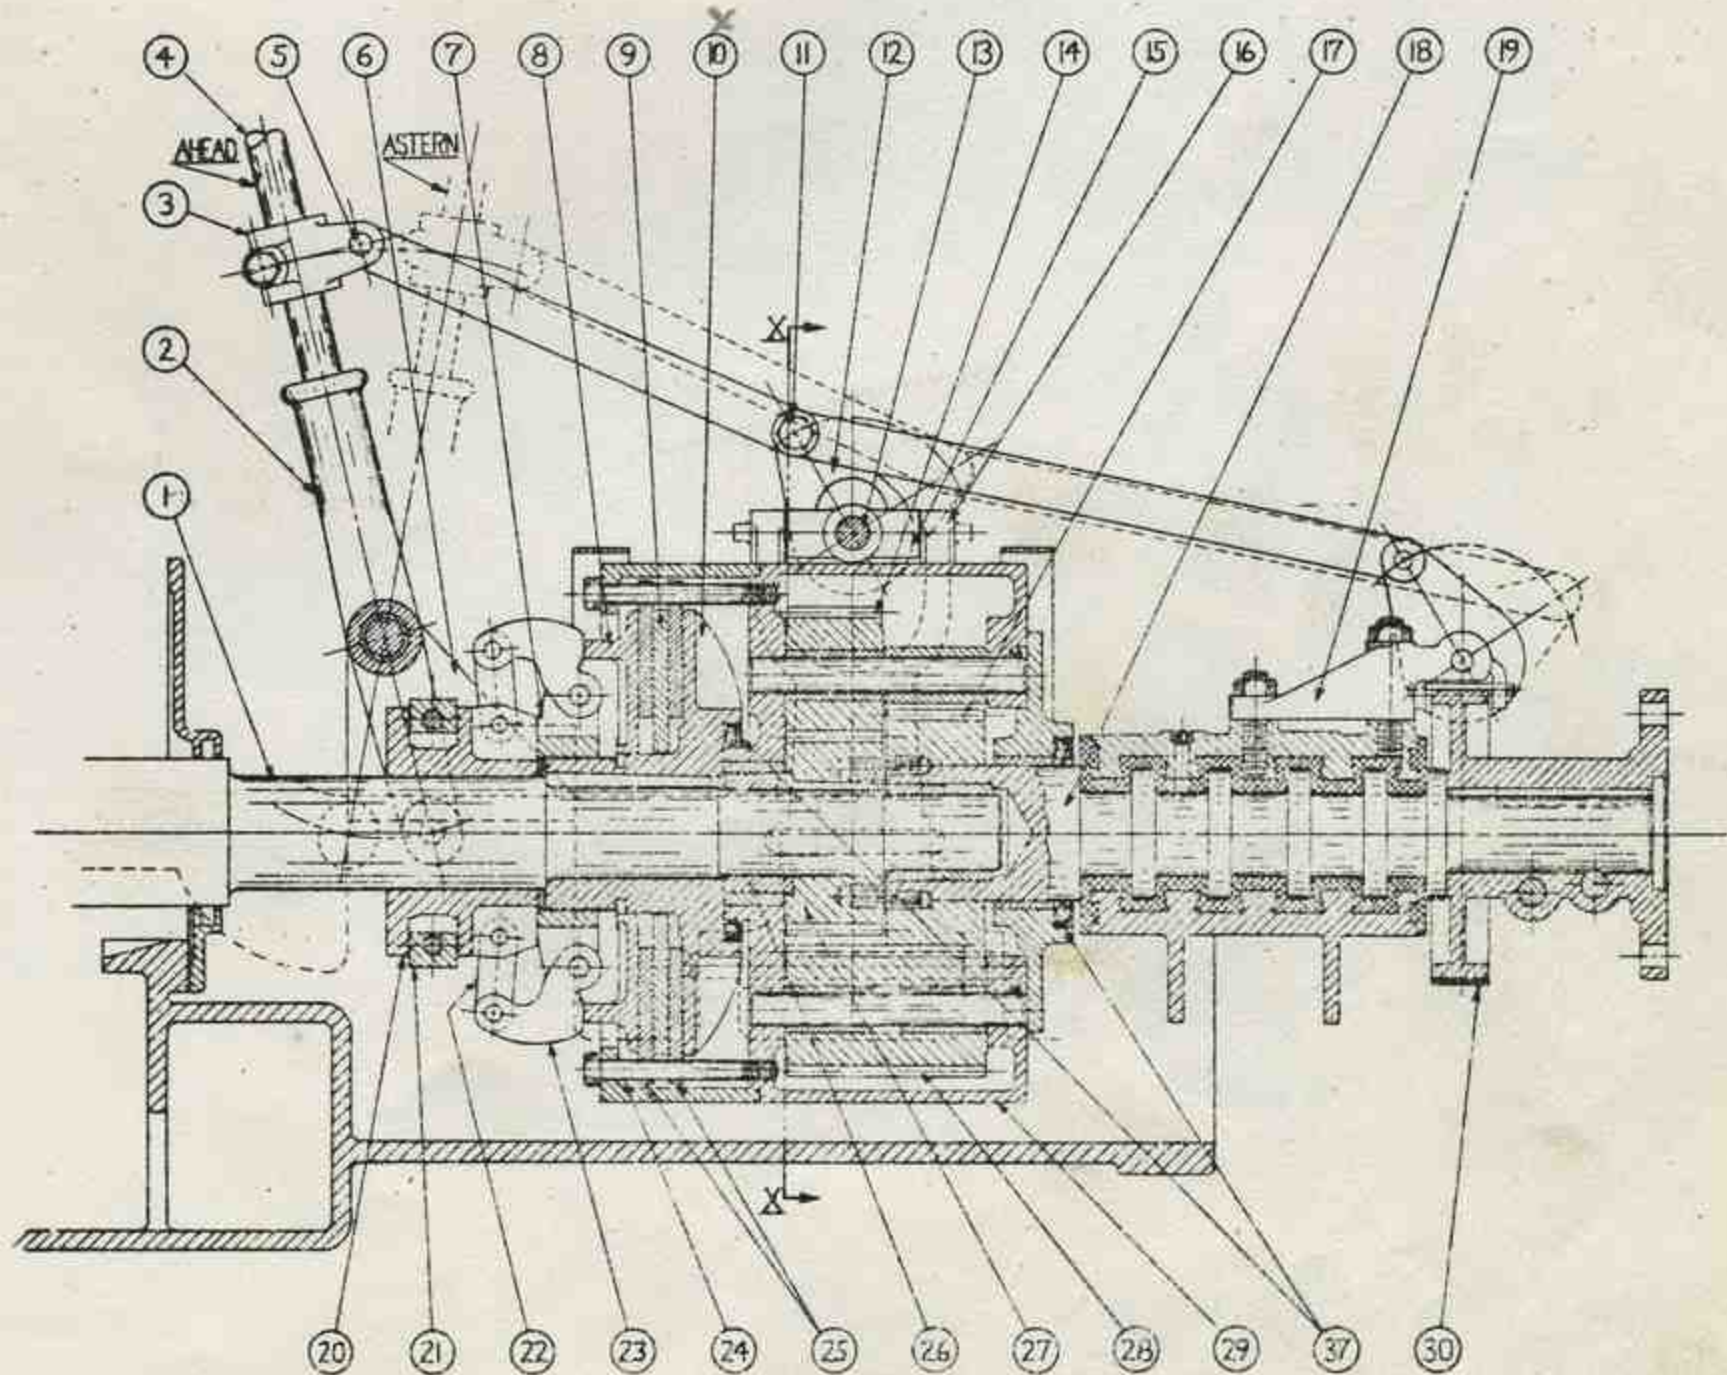
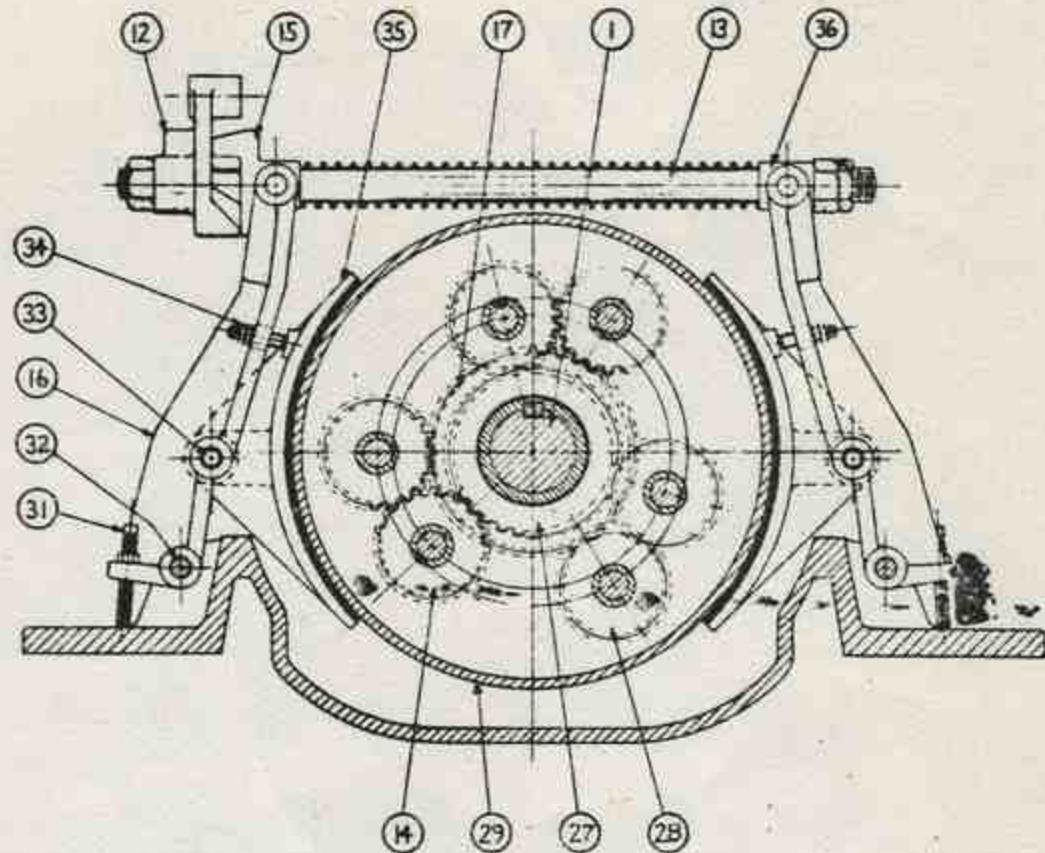
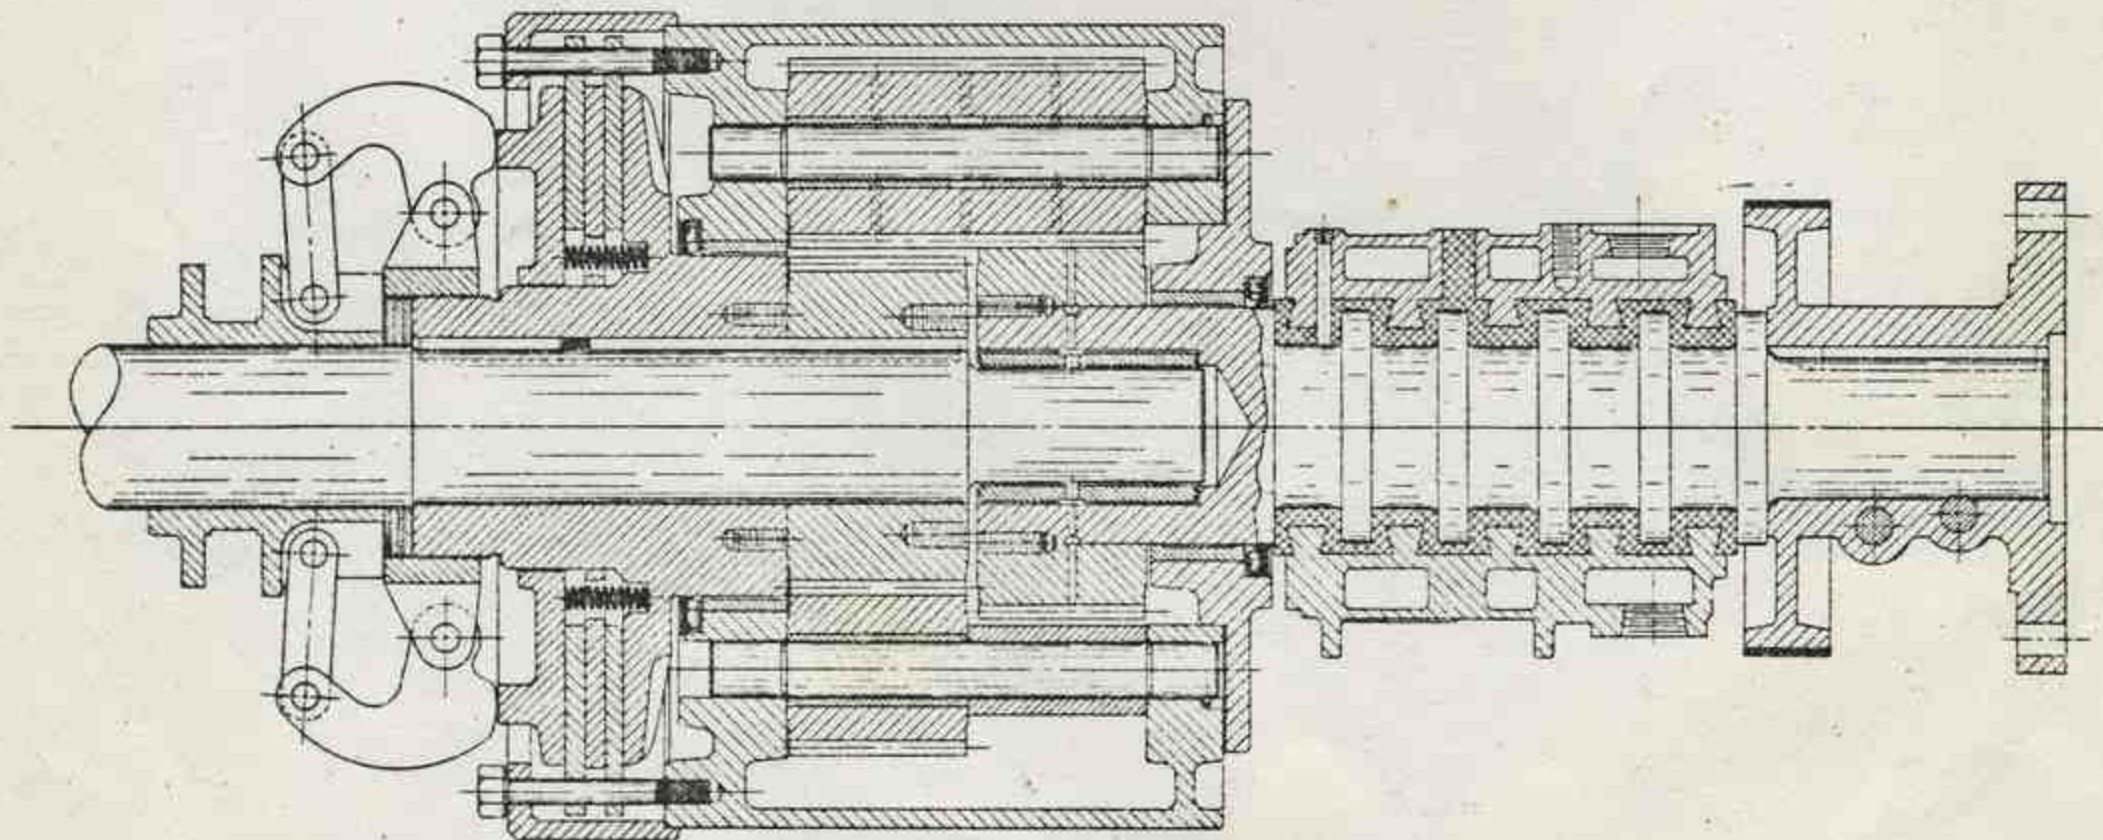
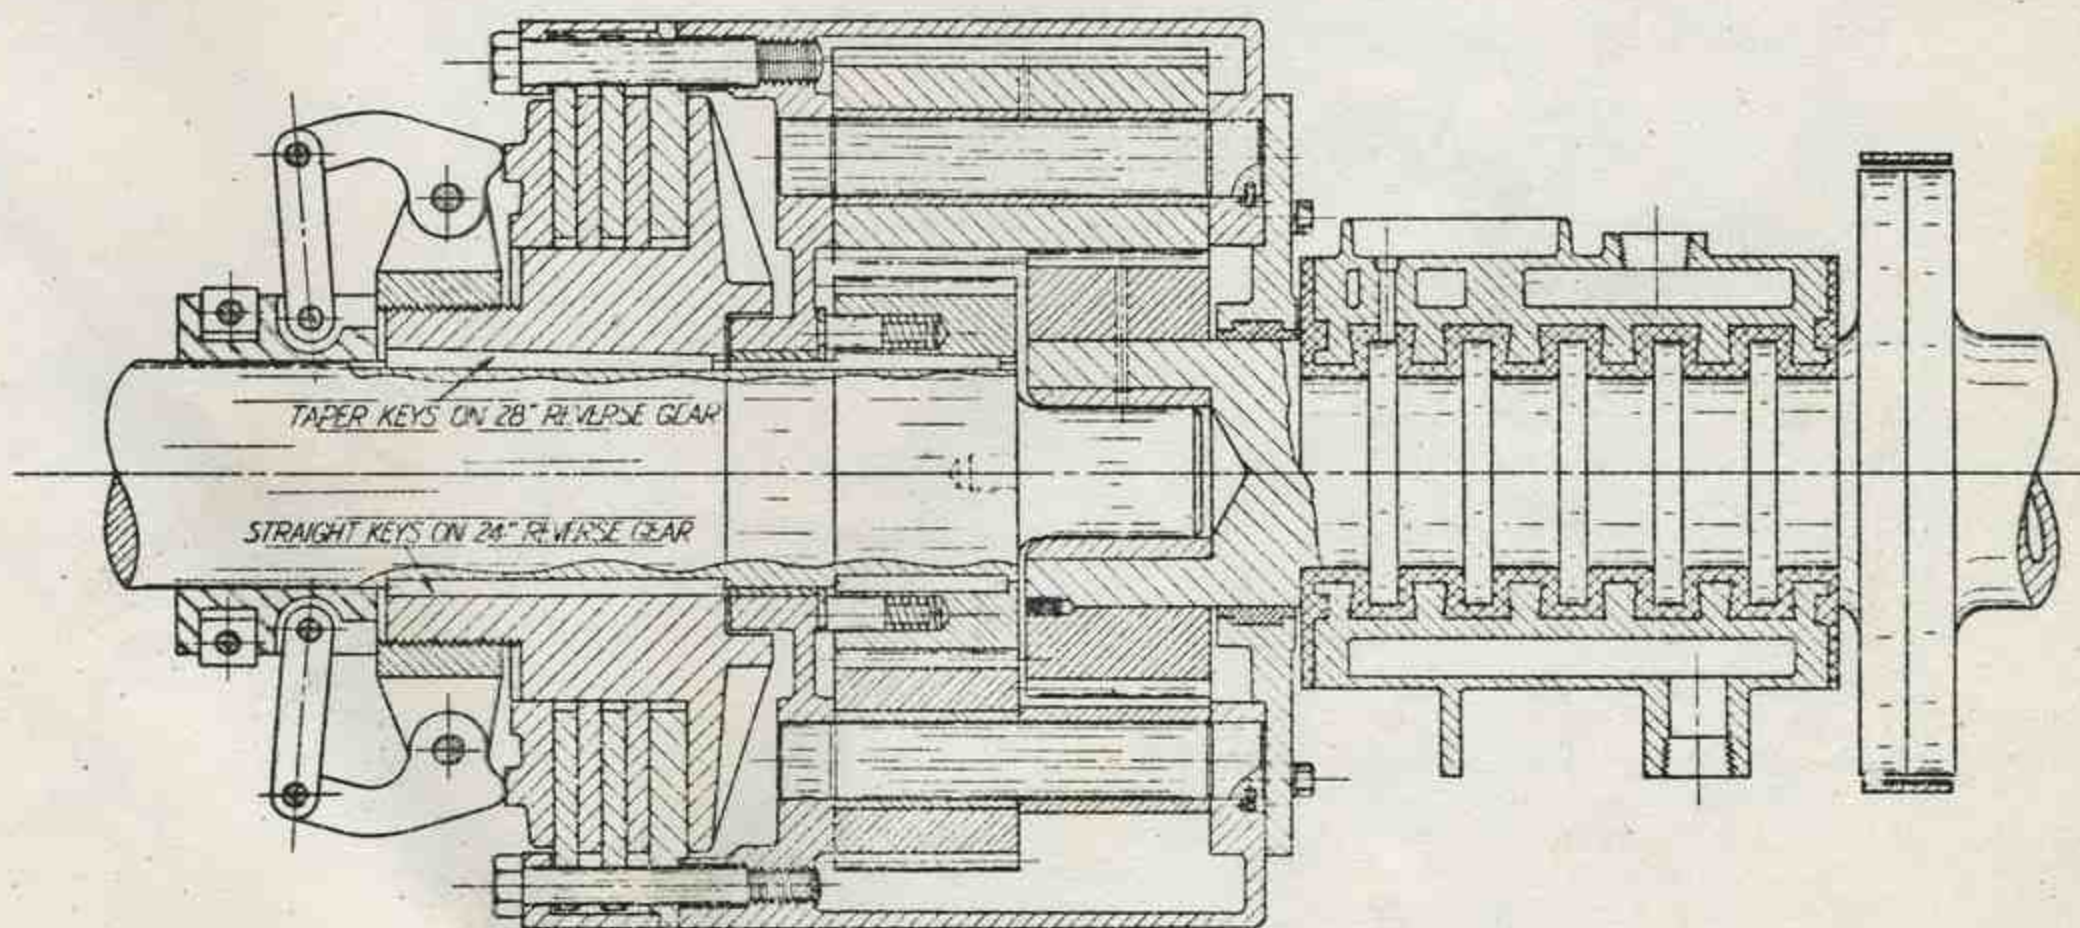

FIG. S-1
FIG. S-2
FIG. S-3
FIG. S-4
The gear is made up of a planetary transmission, a disc clutch, and two brakes, operating on the drum of the transmission and on the propeller shaft. The resulting drive permits complete control of the propeller shaft by means of the clutch control mechanism. Its operation is described under Paragraph 6. The reverse gear is closely associated with the thrust bearing, and both units are shown in the illustrations and included in the following description. The different size gears are quite similar in design and the description applies to all of them with the exception of certain differences that are mentioned in the text. Fig. S-1 and Fig. S-2 show longitudinal and transverse sections through the 14" gear, Fig. S-3 illustrates the design of the 19" and 21" gears and Fig. S-4 the 24" and 28" gears. The
Referring to Fig. S-1, the planetary transmission is housed in a rotating drum (29). It consists of two shaft gears (17) and (27), mounted side by side on adjacent ends of crankshaft (1) and thrust shaft (18), and interconnected by three pairs of "planet" gears, (14) and (28). These planet gears rotate on bronze bushings on pins mounted in drum (29). The long planet gears (28) extend across the faces of both of the shaft gears, meshing with the larger thrust shaft gear (17) and clearing the smaller crankshaft gear (27). The short planet gears (14) are in line with the crankshaft gear and the extension of the long planet gears, meshing with both of these gears and completing the gear train between the two shafts. Fig. S-2 shows a section taken through the planetary transmission at XX in Fig. S-1 and illustrates the planet gear mounting. The above general description applies to all of the different size gears, but there are a number of minor differences in design, the most important of which are as follows:
bearing. The construction differences may be clearly seen by a comparison of Fig. S-1, Fig. S-3 and Fig. S-4.
The 24" and 28" gears are provided with thrust rings, shown in Fig. S-4. Four springs acting on this ring push the drum forward when the clutch is disengaged, holding the clutch plates free so that they do not drag. In the 19" and 21" gears similar springs shown in Fig. S-3, work between the plates to hold them apart. No springs are used in the 14" gear. These springs should be replaced when overhauling if they are broken.
The plate clutch acts between the crankshaft and the planetary transmission drum. Referring to Fig. S-1 the clutch driving hub (10) is keyed and pressed on the after end of the crankshaft, just forward of the crankshaft drive gear. Crowder collar (7) is screwed and clamped to the end of the clutch driving hub and a square hub on the latter engages the driving plates (8) and (9). The driven plates (25) are connected to transmission drum (29) by capscrews (24) which engage holes in the plates and also retain the clutch cover to the drum. Four floating clutch plates - two drive and two driven - are used on the 14", 19", and 21" gears, and five are used on the 24" and 28" gears. (On earlier engines only three floating plates were used on the large gears.)
The clutch is engaged or disengaged by means of shifter cone (20) (See Fig. S-1) which slides fore and aft on the crankshaft and to which links operating the crowd-ers (23) are pinned. When the clutch is engaged the cone is aft, bearing against crowder collar (7). In this position the center line of links (22) are inclined slightly forward. In other words the pins connecting the links to the cone have been moved in past center, so that the crowding force tends to hold the cone aft.
The brake controlling the planetary transmission drum consists of two shoes (35) (See Fig. S-2) which float on pins (33) on each side of the drum. The pins are carried by brake posts (16), which are supported at the bottom on fulcrum pins (32) extending through lugs on the engine base. Blocks, (15) & (36) swiveled in the tops of the posts are tied together by means of tie rod (13). Swivel block (15) is cam shaped and bears against a mating cam or crowder (12), which is rotated by means of a link connecting to the clutch operating lever. As the crowder is rotated it climbs up on the cam, shortening the tie rod and pressing the brake shoes in against the drum, applying the brake. The foregoing applies to all of the brakes except that on the 24" reverse gear, in which a sliding wedge mechanism is used for the crowder in place of the rotating cam. On the 28" gear two rotating crowder cams are used, one on each side, operated from levers on the handwheel jack shaft.
A brake band (30) (See Fig. S-1) is used for the propeller shaft brake, wrapped around the drum on the shaft coupling. It is supported by a bracket (19) bolted to the top of the thrust bearing cap, and is operated by a link from the gear drum brake mechanism. A rotating crowder cam is used on most of the designs, but in some cases a sliding wedge is used. In either construction the cam or wedge design is such that the brake is applied and released at the desired points in the operating cycle. Instructions for adjusting and servicing the brakes are given in Paragraph 9 (c).
- (g) Remove the capscrews holding the clutch cover to the drum and remove the drum. NOTE: On the 19" and 21" gears only, the drum can be removed without resorting to Step (f). (See Fig. S-3.) On the 14", 24" and 28" gears however, the crankshaft gear must be pulled before removing the drum.
On the 14" and 28" gear where the clutch hubs and crankshaft gears are held by taper keys (and also on some of the older designs where taper keys were formerly used), new keys must be fitted if the parts are replaced. The keys must be fitted individually, pressing each piece on the shaft in turn, fitting its key, removing it, and then proceeding with the next piece. On the 14" gear, clutch hub (10) (See Fig. S-1) must be pressed on the shaft without shifter cone (20) being in place. The taper key is driven in and marked at the end of the hub. The hub is then pulled and the key cut off where marked. The crankshaft gear is then pressed on to its final location, allowing exactly the correct space behind it for the clutch hub and spacer (26). The key is fitted and driven in and the end marked, leaving sufficient projection to engage the notch in the end of the spacer. The parts may then be finally assembled on the shaft, pressing the clutch hub and gear home on their respective keys. The end of the key for the clutch hub must be securely blocked to prevent its backing away as the hub is pressed against it. Substantially the same procedure is followed on the 28" gear, the difference being that spacer (26) is not used. (See Fig. S-4.) The key for the gear is allowed to extend along the shaft to the clutch hub, and the extension is filed down to the contour of the shaft. This is necessary to prevent oil leakage along the shaft. The keys must be fitted for each part individually prior to the final assembly, as described above for the 14" gear.
If the drum brake is kept properly adjusted the lining will give long service, but if the adjustment is neglected it may be ruined very quickly. The adjustment is practically the same for all of the different size gears and is described below for the 14" gear. (See Fig. S-2.) Adjusting screws (31) should be set to allow clearance between the drum and the center of the brake shoes equal to approximately 1/32" on the 14" drum and up to 1/16" on the 28" drum. Adjusting nuts (34) should then be set to equalize the clearance at top and bottom of the shoe. If this adjustment is neglected the shoes will drag on the drum and wear the lining unevenly. The adjusting nuts on the tie rod determine the force that is applied to the brake shoe, and should not be set any tighter than is necessary to stop the drum when the gear is in reverse.
Referring to Fig. S-1 clamp (3) securing the brake operating link to the clutch control lever is adjustable on the lever, and should be set so that the brakes take up at the proper time in the control cycle. Use care however that this clamp is not raised so high on the lever that the linkage will buckle, that is so that pin (11) will drop down into line with pins (5) and (13) and will then be forced down rather than up when the clutch is thrown out. If this occurs the mechanism will jam and it will be impossible to release the clutch. This condition will be approached gradually as the plates wear, and if not watched for may occur when least expected.